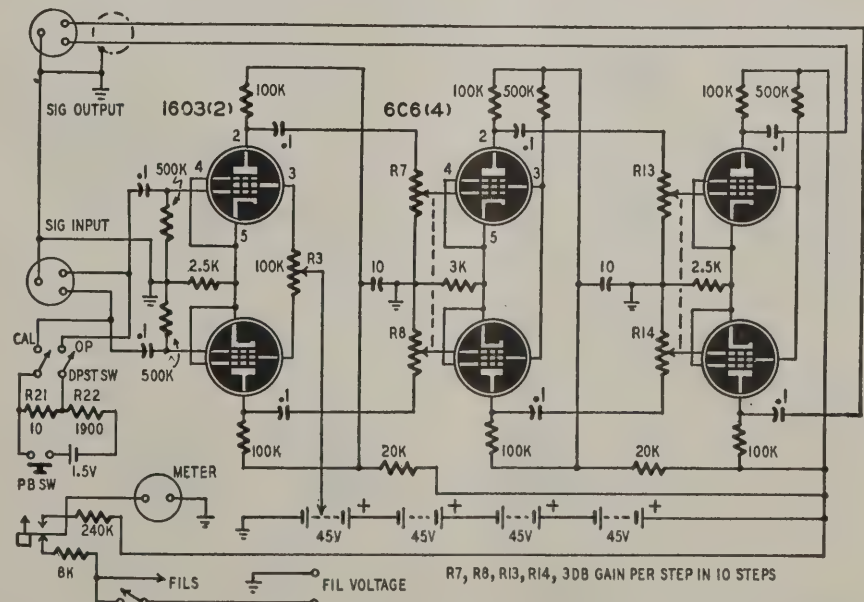

Fig. 2—This high-gain, low-noise, wide-range amplifier magnifies muscle action potentials.
1. A high-gain, low-noise-level, wide-range, calibrated, balanced, push-pull preamplifier, with built-in calibrator (Fig. 2);
The preamplifier (Fig. 2) comprises three stages of push-pull, resistance-capacitance coupled voltage amplification. The advantages of the push-pull circuit in medical electronic equipment have been discussed in earlier articles. It is possible to obtain linear amplification of all input voltages between 10 microvolts and 100 millivolts by means of the balanced, tandem, 10-step attenuators R7, R8, R13, R14. Each attenuator